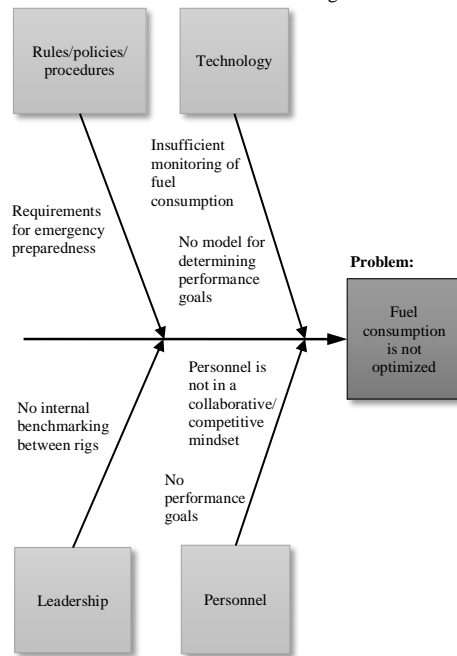

Fig. 1. Fishbone diagram of the causes and effects related to fuel consumption on a MODU.
1) *Cause and effects*: A fishbone diagram of the cause and effects related to poor fuel efficiency is illustrated in Fig. 1.